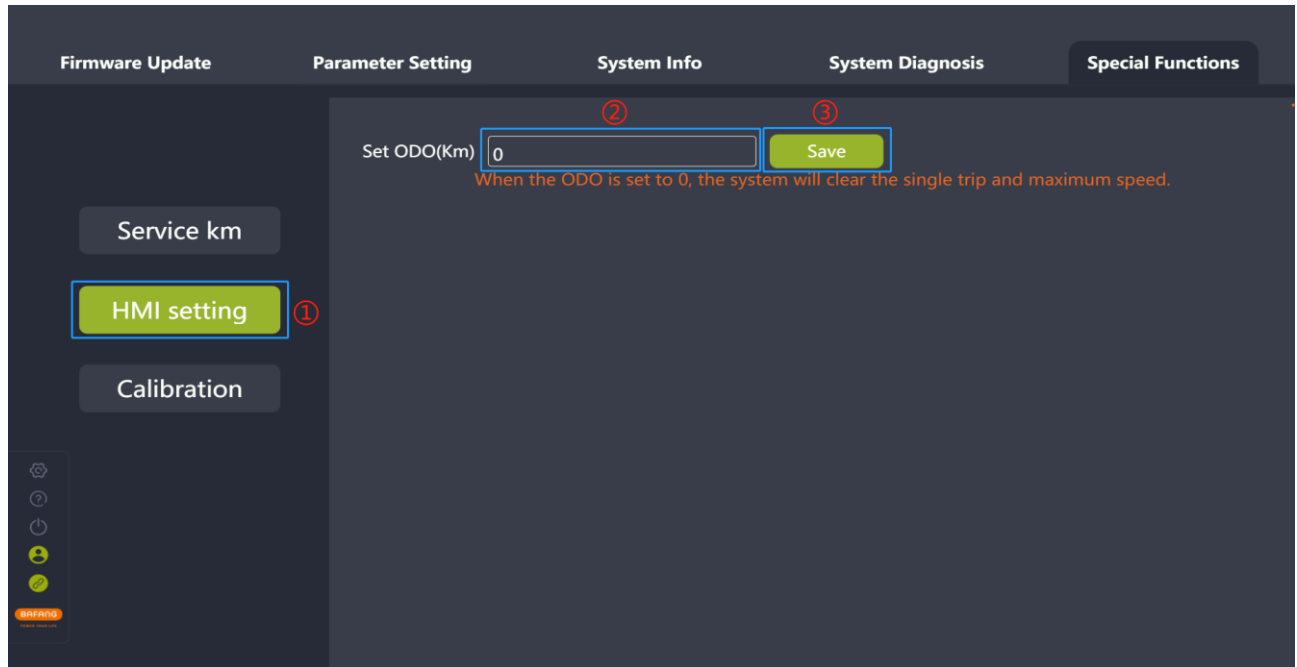

Fig. 8-4 Set ODO
- (1) Connect the BESST Tool to the HMI and select the “HMI setting” icon;
- (2) Enter the total mileage (ODO) in the “Set ODO(km)” input box and the value is an integer from 0 to 9999;
- (3) Click the “Save” icon (Fig.8-4).